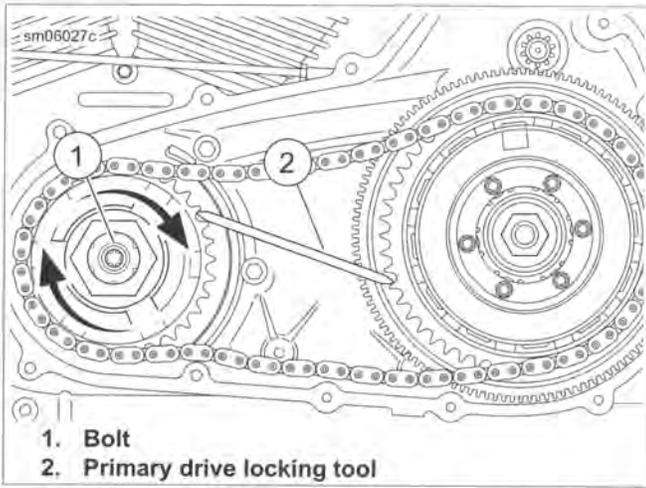

Figure 5-12. Installing Engine Compensating Sprocket Bolt
6. See Figure 5-12. Place the PRIMARY DRIVE LOCKING TOOL (Part No. HD-48219) between the teeth of the engine and clutch sprockets as shown.